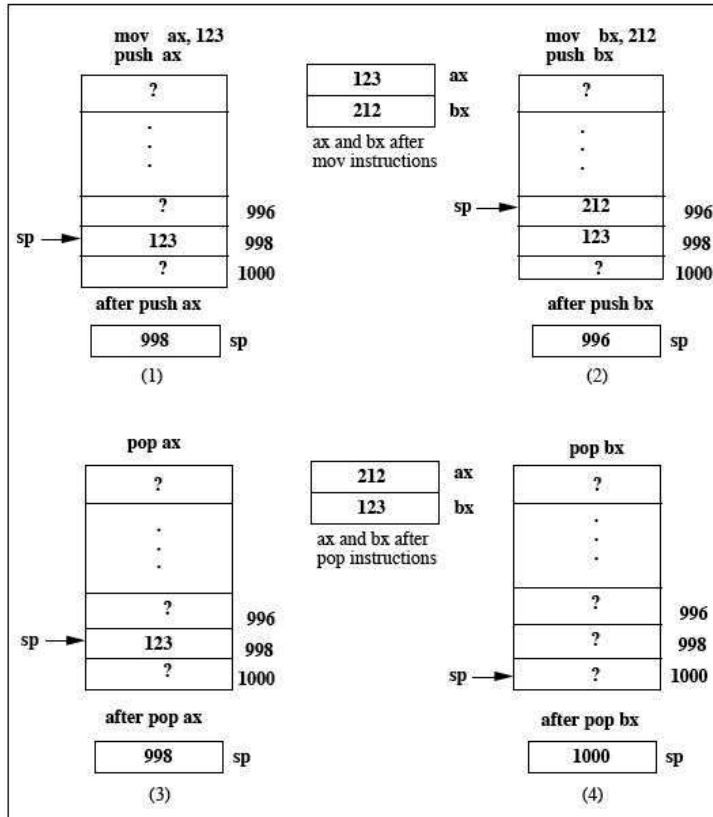

Fig. 2.13 Stack and Stack Pointer Operations
The preceding example is illustrated in Figure 2.13. Steps (1) to (4) correspond to the states of the stack and stack pointer after each instruction.